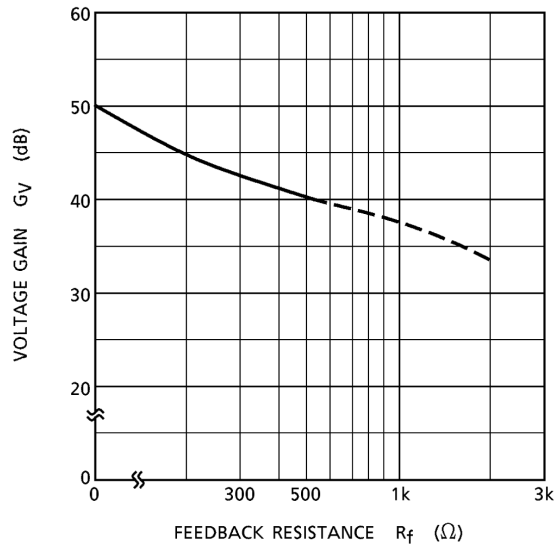

Fig.2
The voltage gain is reduced when  $R_f$  is increased. (Fig.2) With the voltage gain reduced, since (1) the oscillation stability is reduced, and (2) the pop noise changes when VCC is set to on, refer to the items 3 and 4.